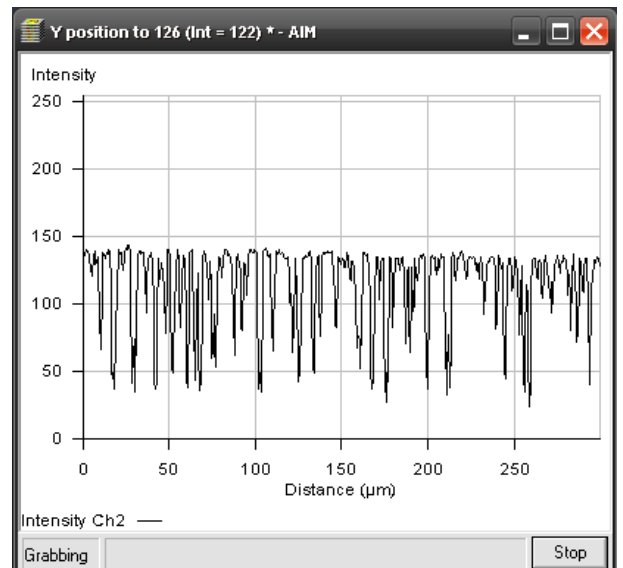

Fig. 560 Pinhole adjustment scan window
- Pinhole adjustment will then run automatically and the Scan window will appear (see Fig. 560). The adjusting procedure takes approx. 3 min.